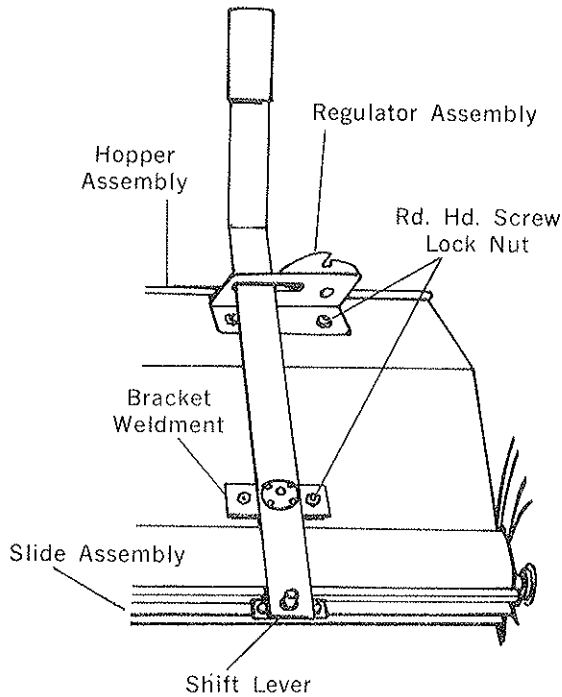

Figure 6
- D. Ref. Fig. 6 - Loosen the R.H. Screw and Nut holding the Shift Lever Assembly to the Hopper. Slip the Shift Lever Assembly off the Slide Assembly Stud.